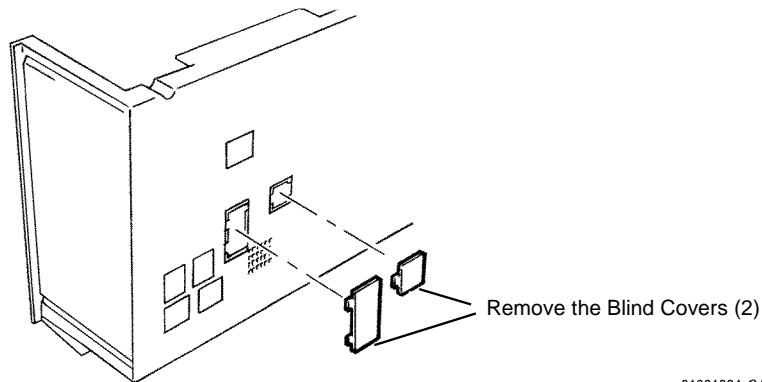

**Figure 7 Installing Harness**
4. Install the Wire Harness (Figure 7).